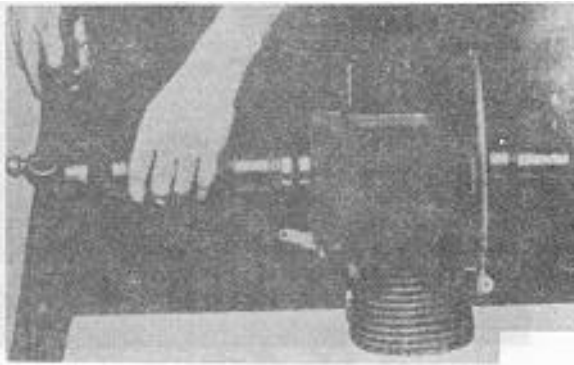

Figure 25
- Figure 25 shows two oil seals on crankshaft.